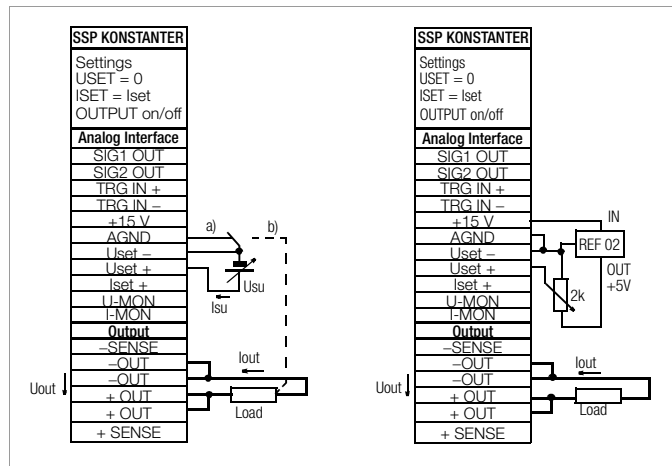

Figure 5.4 Wiring for Controlling Output Voltage with External Voltage / External Potentiometer
- If the **reference point** of control voltage **U_{su}** is connected to the negative output pole at the load side, the inverting input must be connected to this point (**connection b** in Figure 5.4).
- If **control voltage** is isolated from the **output**, connect **Uset-** to **AGND** (**connection a** in Figure 5.4).
- If **remote adjustment** of output voltage is to be accomplished by means of a **potentiometer**, wiring can be laid out as shown in Figure 5.4.